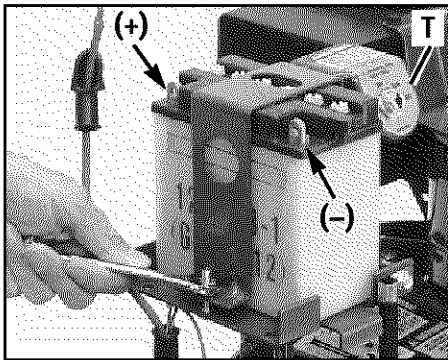

Figure 2-15
1. Remove the battery from the tiller by removing the screws, lockwashers and nuts from the battery hold-down clamp (Figure 2-15).
1. Reinstall the battery on the battery mounting base with the two cable mounting posts facing to the rear of the tiller. Be sure that the positive (+) post is on the left-side of the tiller and the negative (-) post is on the right-side (as viewed from rear of tiller). See Figure 2-15.
2. Reinstall the battery hold-down bracket over the battery with the ignition switch (T, Figure 2-15) toward the front of the unit. Attach the bracket to the mounting base using the two 1/4-20 x 1-1/4" carriage screws (insert screws up from beneath mounting base), 1/4" lock-washers and 1/4"-20 nuts removed previously. Tighten the nuts securely, but not so much as to bend the tabs on the hold-down bracket.